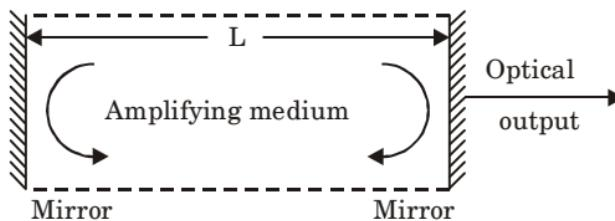

Fig. 2. The basic Laser structure incorporating plane mirrors.
3. To achieve laser action it is necessary to contain photons within the laser medium and maintain the condition for coherence. This is obtained by placing mirrors at either end of amplifying medium as shown in Fig. 2.